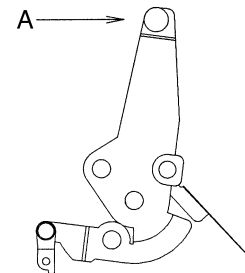

Fig.1 How to release the tension band when measuring the VS-REW winding torque
- (1) Remove the cassette controller, turn ON the down SW while referring to 8-3, operate in the test mode (T01) and select the VS-REW mode.
- (2) Set the torque gauge in the S reel table, push the tip of the tension pole with your finger in the direction shown by Arrow A to release the tension band, and check that the winding torque is within spec. (Fig.1) (Do not apply the own weight of the torque gauge or rotate it during measurement.)
When measuring the height of the S reel table, push the tip of the tension pole with your finger in the direction shown by Arrow A to release the tension band. (Fig.1)